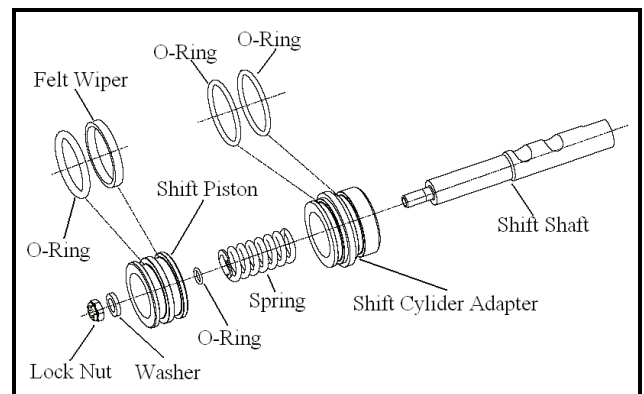

Figure 86
6. Install a new piston-to-shaft O-ring over the threaded portion of the shaft. Slide the spring over the shaft. Place the nylon stop ring over the shaft and spring. Install a new piston O-ring in the outer groove in the piston. Soak the air shift piston felt strip in gear oil and install it in the inner groove. See **Figure 86**.